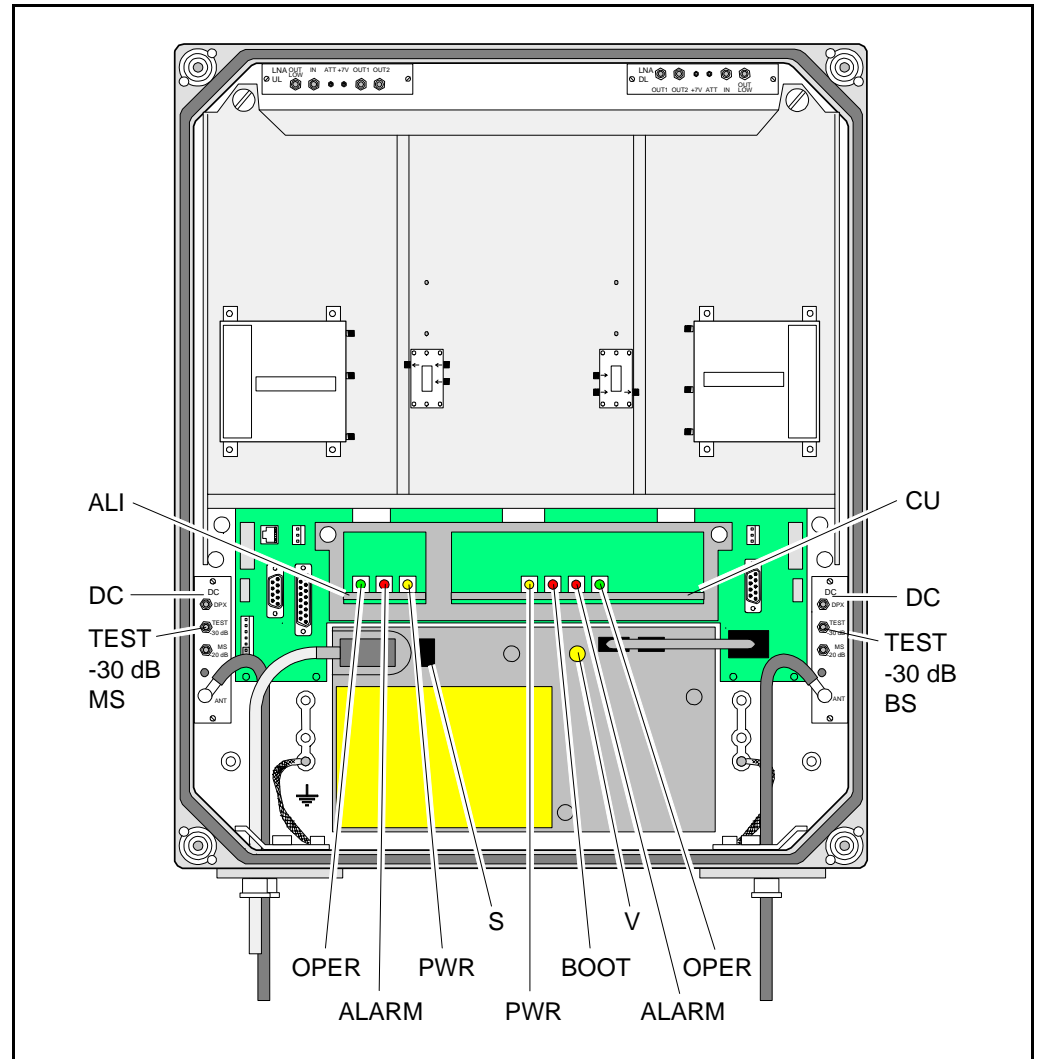

Figure 4-1. Indicators and mains switch
1. Turn the mains switch on (marked 'S' in Figure 4-1).
2. Check the LED on the power supply unit (V). It must be lit with a steady yellow light.
3. Check the four **CU board** LEDs (see Figure 4-1). A correct power up is indicated as follows:
4. Check the three **ALI board** LEDs (see Figure 4-1). The LEDs follow the alarm relays. A correct power up is indicated as follows:
Figure 4-1 shows the repeater indicators and the mains switch. There are also two external indicators on the repeater front cover.
Uplink and downlink output power test ports are found on the directional couplers (DC) at the MS and BS antenna connectors. These test ports are marked TEST -30dB (see Figure 4-1) and are intended for measuring using e.g. a spectrum analyzer.